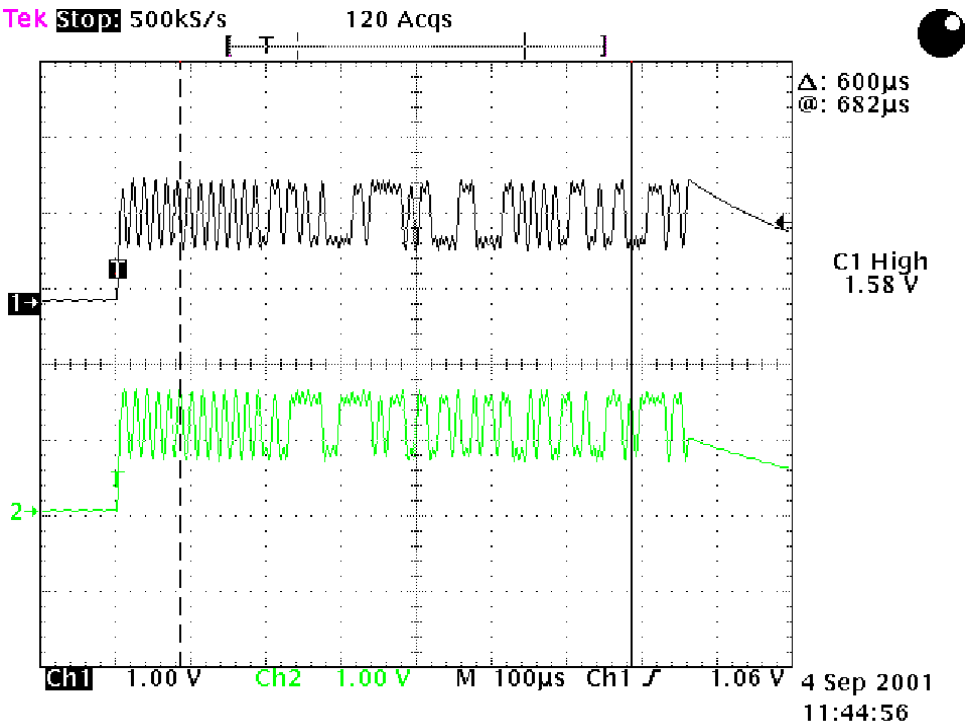

Figure 3-20. TX IQ Signal
6. TX IP, IN, QP, QN (see Fig. 3-20)